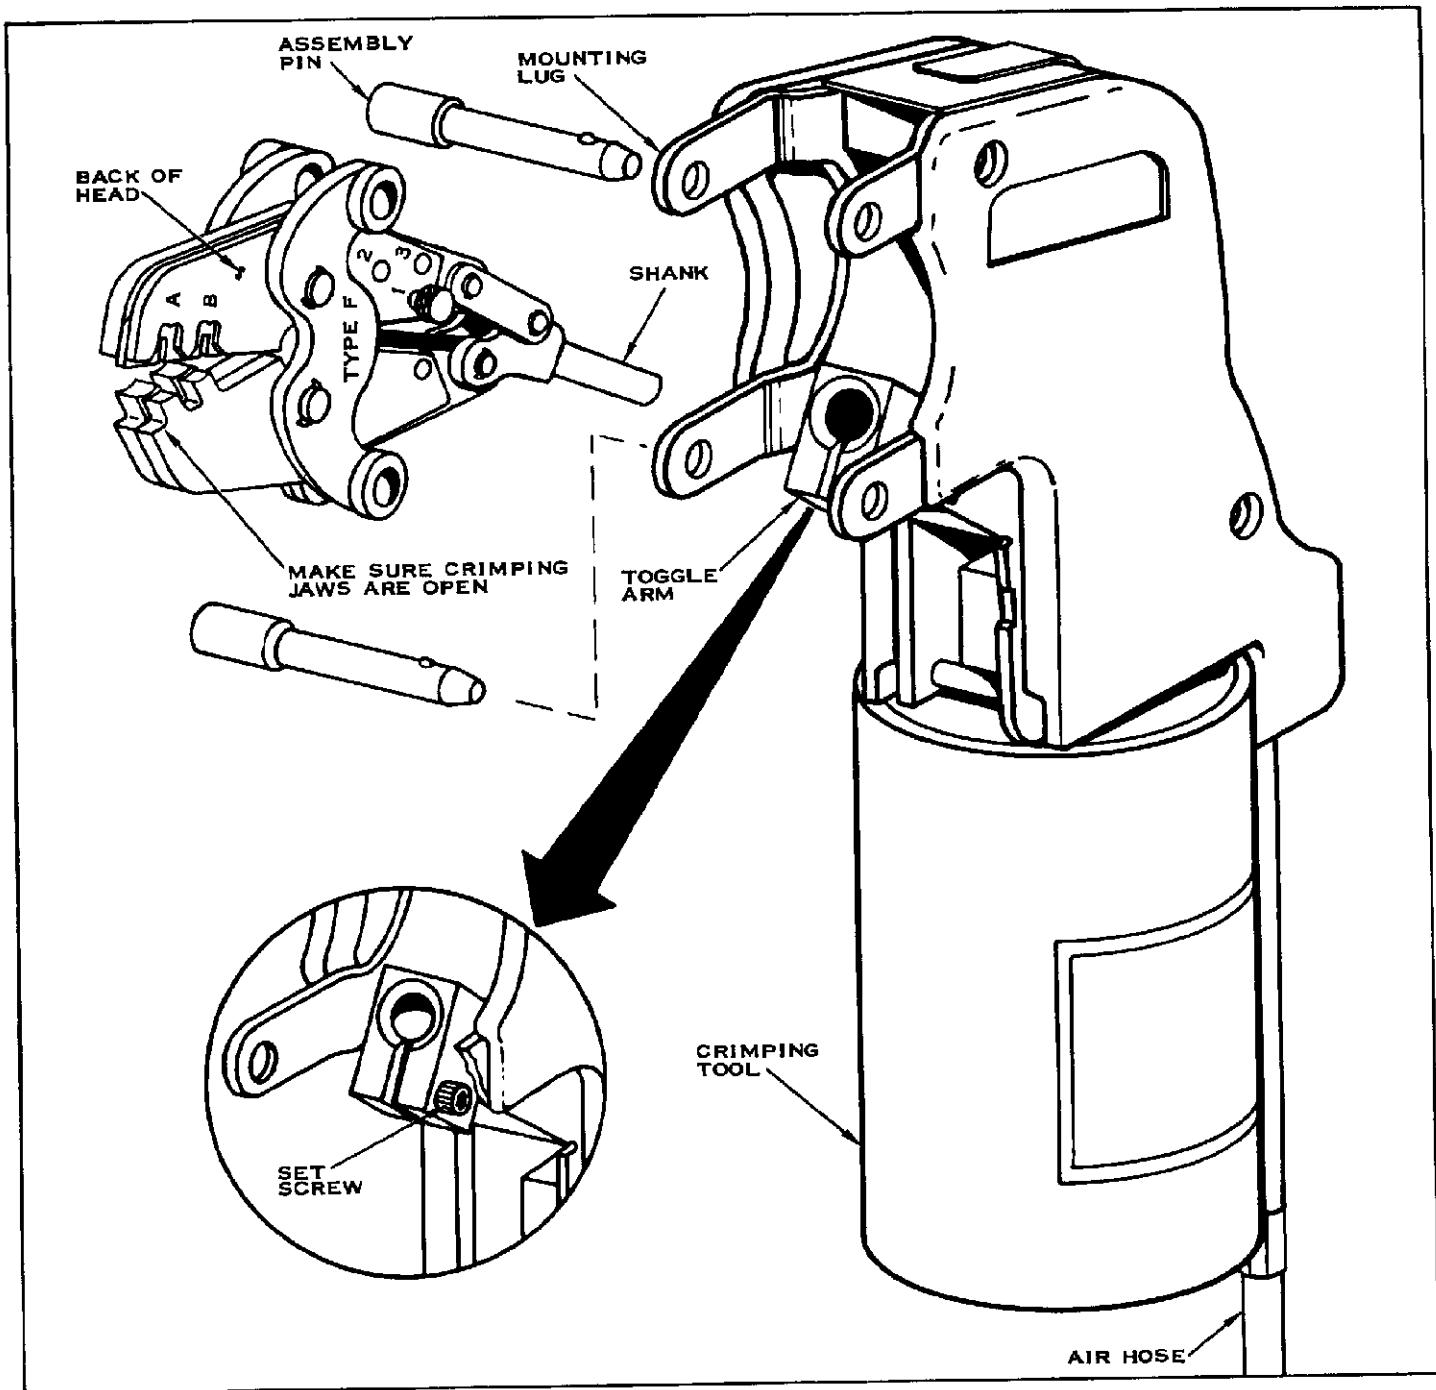

FIGURE 3
1. Remove the two Assembly Pins from the Mounting Lugs on the Tool. Figure 3.
2. Pull the Toggle Arm forward as shown in Figure 3, and loosen the Set Screw.